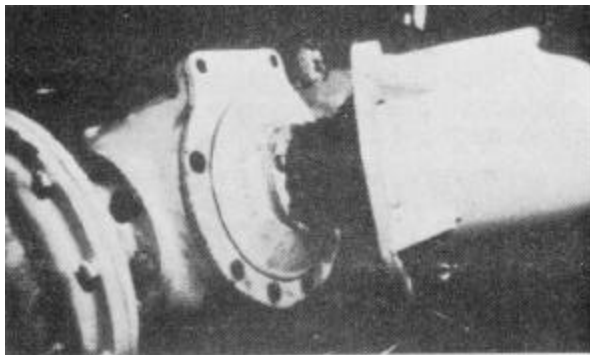

Figure 5-41
6. Pry the motor support away from the pilot on the differential case cover. The drive coupling and parking brake drum are now exposed (Fig. 5-41).